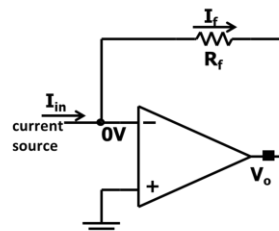

Fig 5.33 CURRENT TO VOLTAGE CONVERTER
– **Trans-resistance Amplifier:** (Refer fig 5.33)